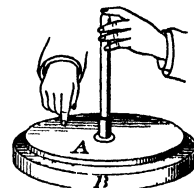

FIG 48
**VIII The electrophorus.** Charge the hard rubber plate  $B$  of Fig 48 by rubbing it with fur or flannel. Place metal plate  $A$  on  $B$ . Touch  $A$  with your finger. When touched what kind of a charge will be repelled out of  $A$  to earth by the negative on  $B$ ? What kind will be left on  $A$ ? By means of the insulating handle lift  $A$  and bring it toward a positively charged electroscope. What happens? This shows  $A$  to be positively or negatively charged? Try lighting a Bunsen burner by holding it in the hand and allowing the spark to pass off the edge of  $A$  to the top of burner while the gas is partly turned on. Does the charge on  $A$  come from  $B$ ? Give reason for your answer. Why can you charge  $A$  an indefinite number of times in the above manner? Where does the energy represented in the spark which lights the gas come from?